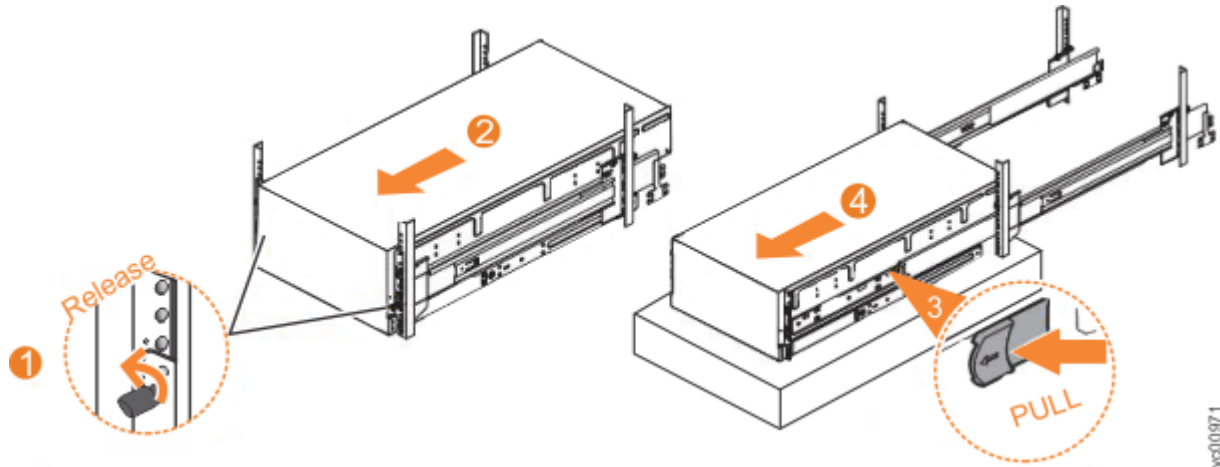

Figure 96. Removing the 2076-92F enclosure from the rack
1. Loosen the locking thumb screws (1) on the front of the enclosure, as shown in Figure 96 on page 87.
2. Carefully slide the enclosure forward out of the rack (2), as shown in Figure 96 on page 87.
3. Locate the left and right blue release tabs near the front of the enclosure. Pull both release tabs forward to unlock the drawer mechanism (3 in Figure 96 on page 87).
4. Slide the enclosure and inner rail member out of the rack (4 in Figure 96 on page 87).